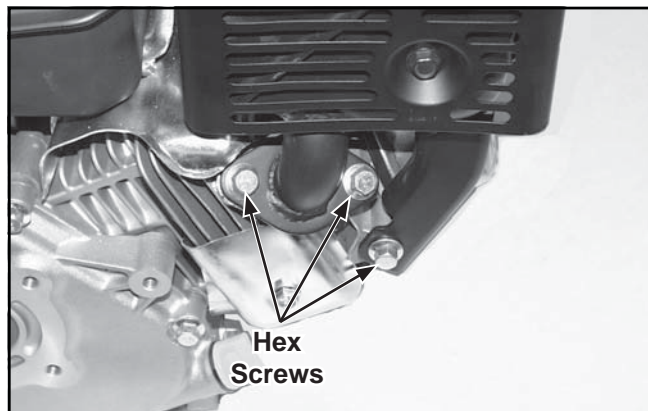

Figure 9-4. Removing CH270 Muffler.
1. Remove the hex flange screws from the exhaust flange and muffler bracket. See Figures 9-4, 9-5, and 9-6.